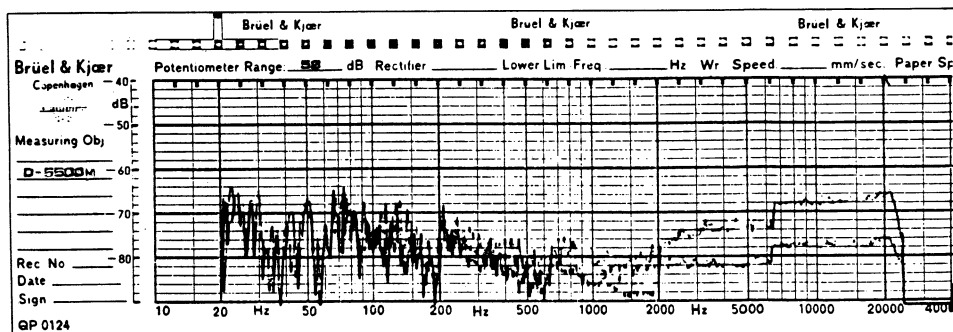

Fig. 7 ANALYSIS OF FREQUENCY OF NOISE
5. The S/N ratio has been improved by using a low noise FET amplifier. Since a low noise FET amplifier is used in the input stage of the D-5500M, playback noise has been reduced. (Fig. 7)